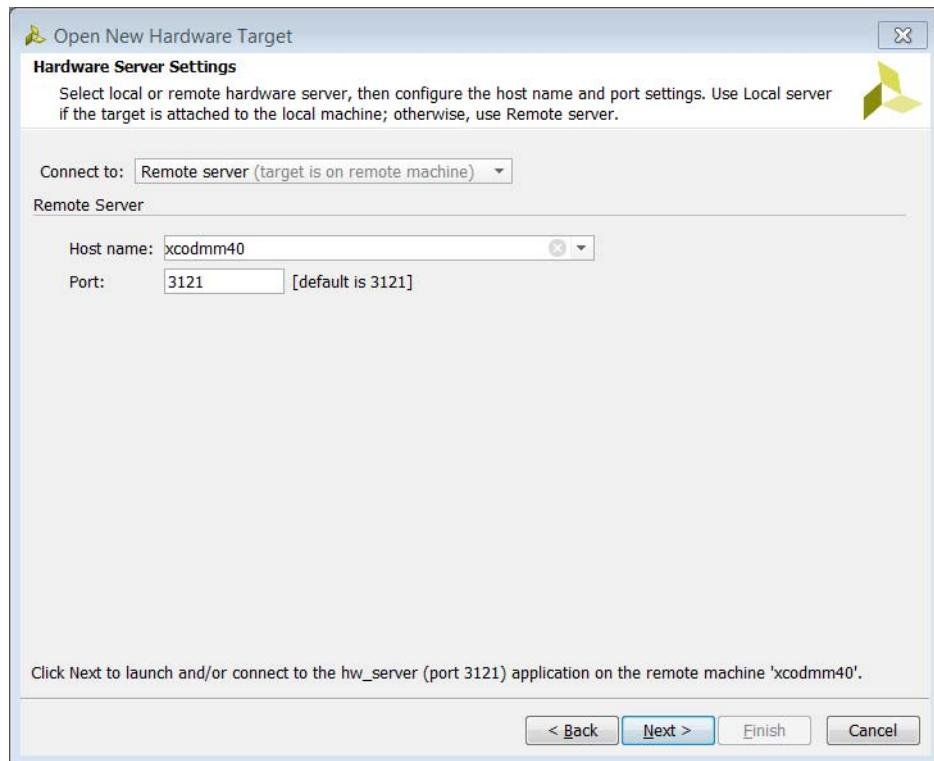

Figure 4-4: Using a Remote Hardware Server
- Remote server: Use this setting if your hardware target is connected to a different machine on which you are running the Vivado Lab Edition or Vivado IDE. Specify the host name or IP address of the remote machine and the port number for the hardware server (`hw_server`) application that is running on that machine (see Figure 4-4). Refer to Connecting to a Remote hw_server Running on a Lab Machine, page 188 for more details on remote debugging.